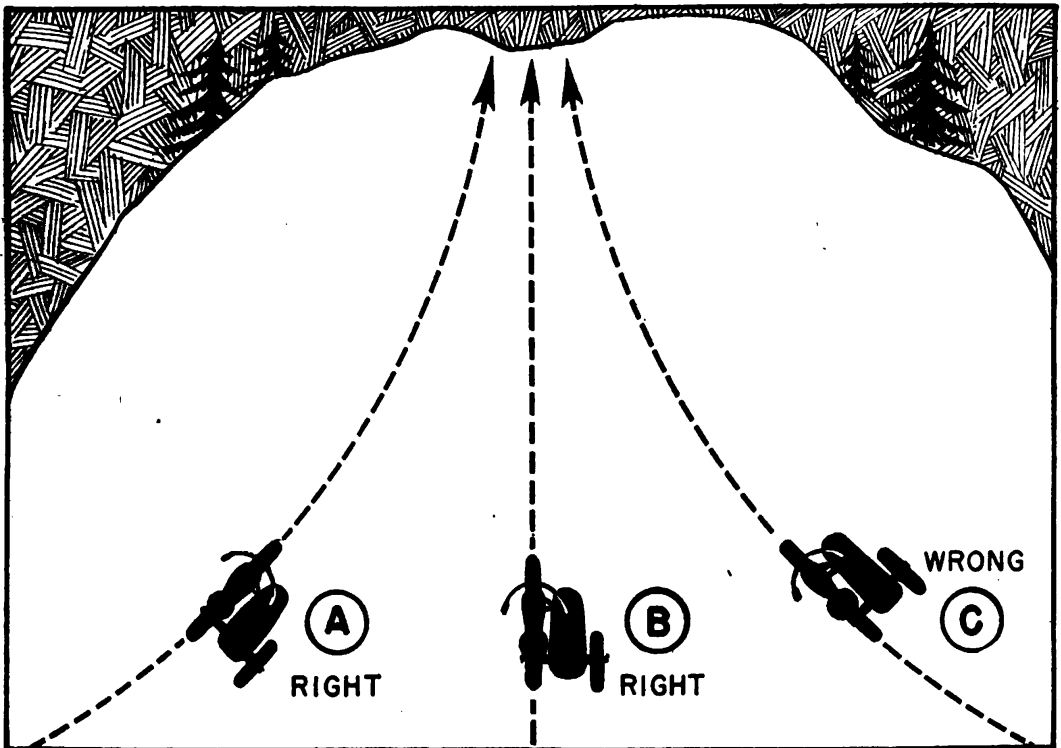

FIGURE 17.—How to climb a steep slope with a side-car combination.
*f. Riding and turning on steep slopes.*—When climbing a steep slope, drive so that the side car is *never* above the motorcycle or the vehicle will almost certainly keel over. In figure 17, the routes of riders A and B are well chosen, but that of rider C is incorrect. If a side-car combination stalls on a steep slope, or it is desired to turn